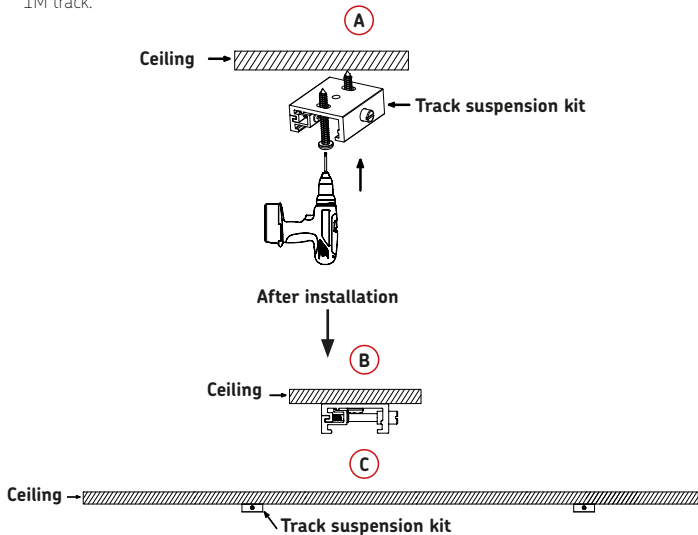

Fig. 1
- Fit aluminium suspension brackets to ceiling/flat surface (see Fig. 1)